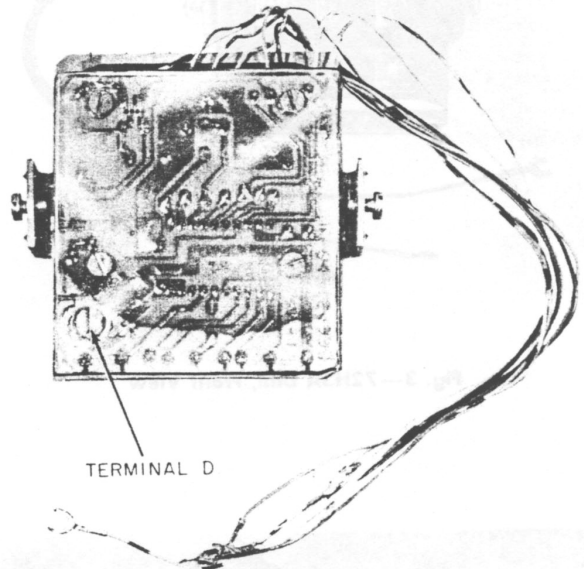

Fig. 2—72C3A (MD) Dial, Rear View
**2.06** Each dial has eight spade-tipped leads (Fig. 11, 12, 13, and 14) for connections to the telephone set network and one screw terminal (D) located on the back side of the dial (Fig. 2, 4, 5, 6, and 7) where a line switch lead terminates. ♦The Z72JG3B and Z72JG3BE dials have a cable assembly for connections to the telephone set instead of spade-tipped leads and terminal D (Fig. 15 and 16).♦